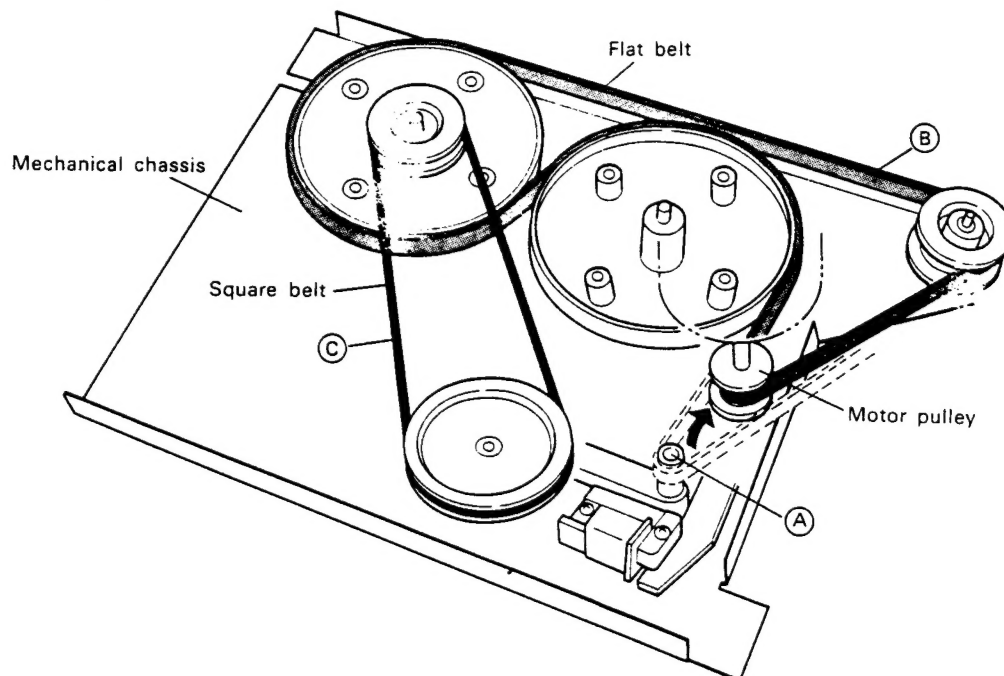

Fig. 13-4 Appliance of belt
1. Apply the flat belt as shown in the broken lines through ㉠ section (belt temporary holding shaft) in the Fig13-4.
2. Apply the square belt as shown ㉡ in Fig13-4.